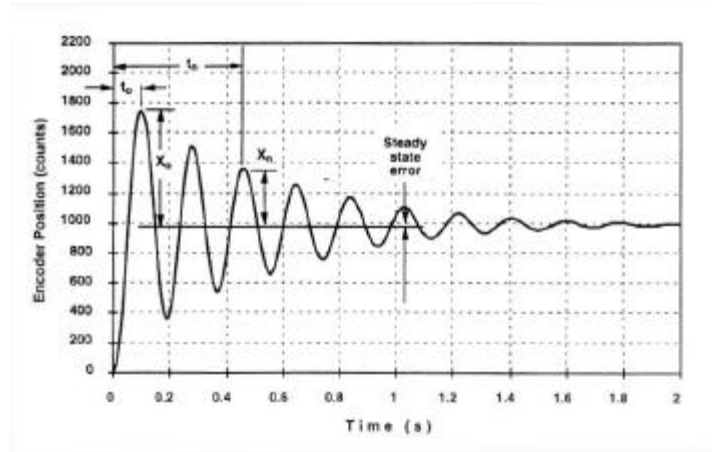

Figure 3 Typical Response to a Step Input
6. Select **Set-up Plot** from the **Plotting** menu and choose **Encoder #1 Position** then select **Plot Data**. You will see the drive disk time response similar to that shown in Figure 3.